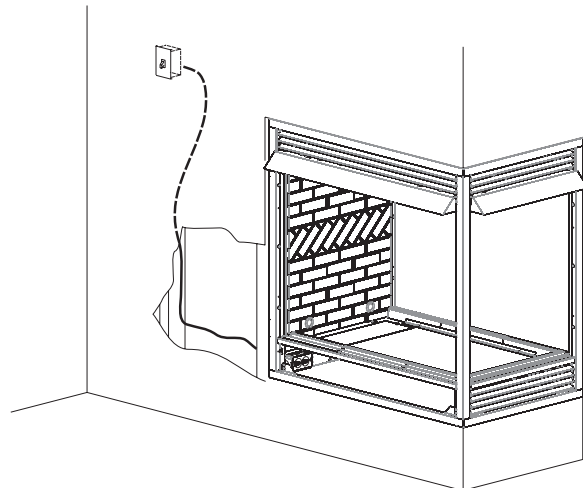

Figure 17 - Flush Or Louvered Models
To install the blower kit, access the junction box, or install a light kit, remove the access cover plate and/or lower louvers or flush panels as illustrated by **Figures 17 and 18**.
3. Determine which type of firebox you have prior to installation. **See Figures 17 and 18**
13. Replace blower access plate and louvers or flush panels. **See Figures 17 and 18.**